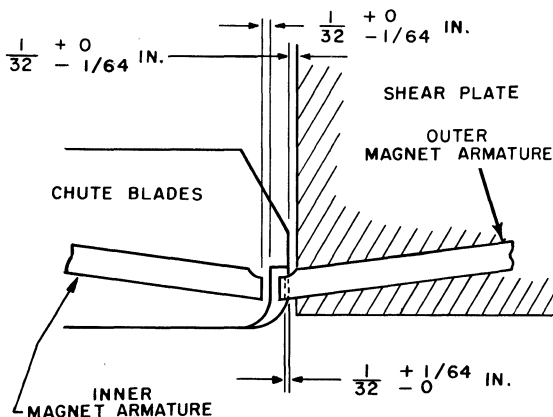

Figure 3-3. Chute Blade (Top View)
4. Adjust chute blades (use the chute blade mounting screw) for $1/32'' \pm 1/64''$ clearance between end of lower chute blade and lower card guide plate (Figure 3-3).